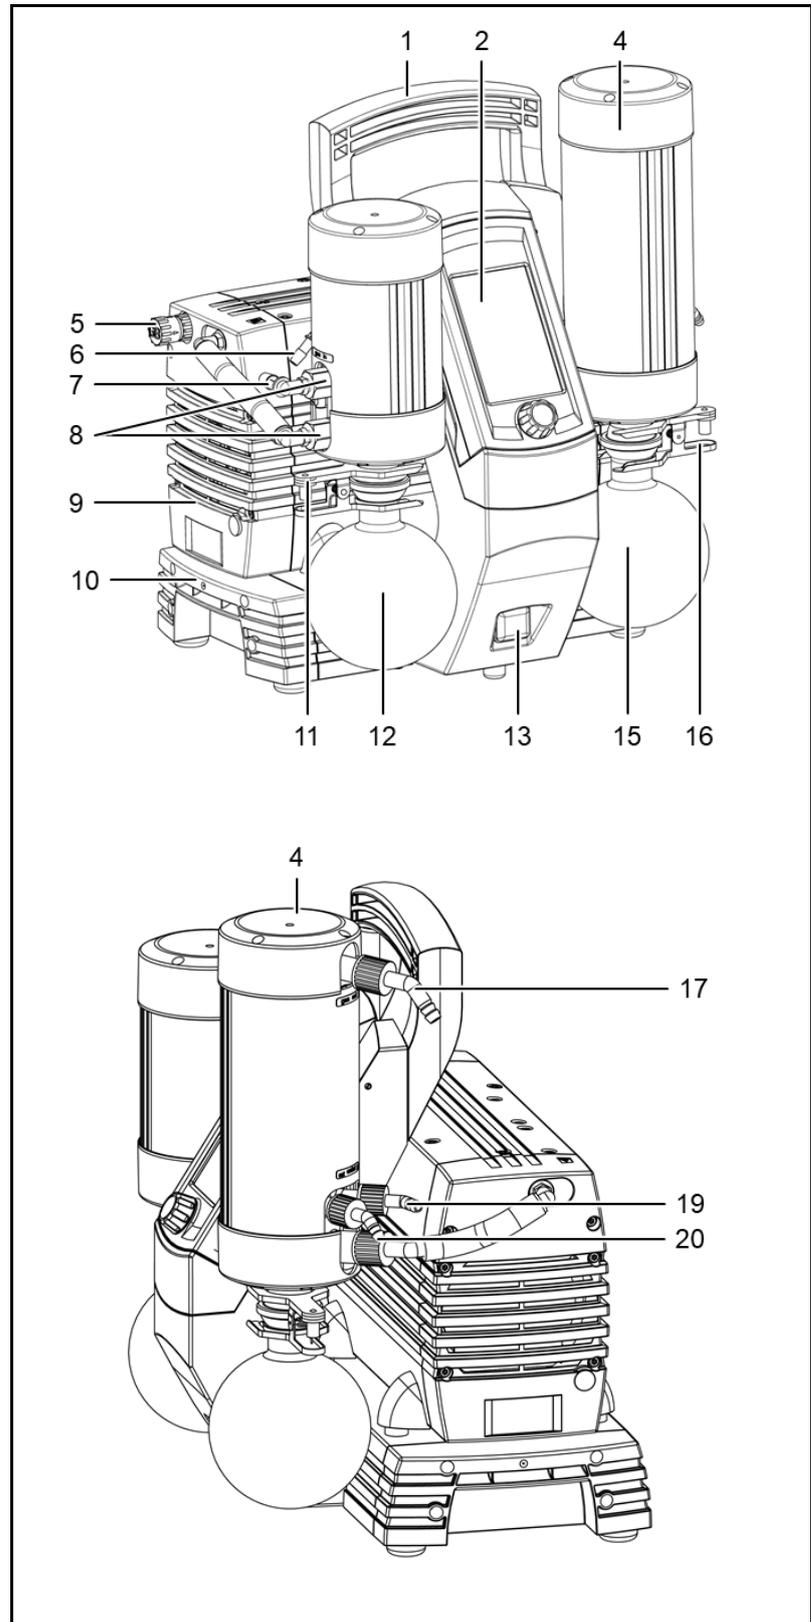

Fig. 2: Vacuum pump system SC 920G
**Ventilating the vacuum pump system** When ventilating the vacuum pump system with air or inert gas, be sure to prevent formation of reactive or explosive media. The maximum permissible operating pressure at the ventilation connection (Fig 2/5, page 11) is 0.1 bar g.
Collection flask (Fig. 2/12) collects on the suction side of the pump particles and drops that were, contrary to the requirements of the pump, suctioned from the vacuum chamber. The collection flask is coated (implosion protection) and fastened to the vacuum pump system via a flask clip.
Solvents deposited in the high-performance condenser are collected in the coated (for explosion protection) collection flask (Fig. 2/15). A flask clip secures the glass flask to the condenser flange. A recirculating cooler or continuously flowing cold water cools the high-performance condenser to the condensation temperature.
Gas ballast     The gas ballast switch (Fig. 2/5) can be used to open and close the gas ballast valve on the vacuum pump system's pump (see Chapter 5.5).
1. Connect the vacuum chamber to the gas inlet's hose connector (Fig. 2/7, page 11, for hose inside diameter of 10 mm). For this, vacuum tubing must be used.
2. Connect hose to high-performance condenser in order to discharge gas exhaust (Fig. 2/17, page 11).
3. Attach coolant feed and return to high-performance condenser (Fig. 2/19 and 20, page 11).
4. If necessary: Connect inert gas supply to ventilation connection (Fig. 2/6, page 11). Observe the safety instructions in chapter 3.